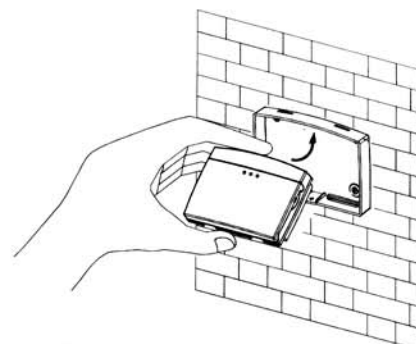

Fig. 3
8. Refit the Keypad by slanting 45° onto the wall mounting plate. Do not over-tighten the fixing screw. (Fig. 3)